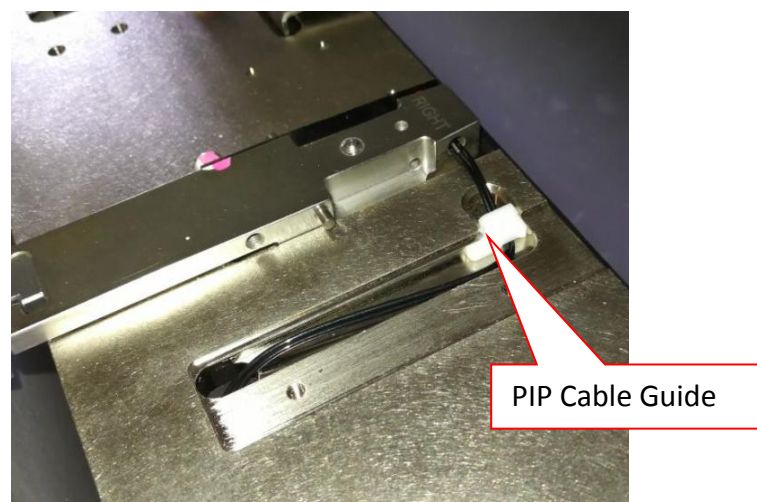

Figure 25 PIP Cable Guide removal
6. Remove PIP Cable Guide as shown in Figure 25